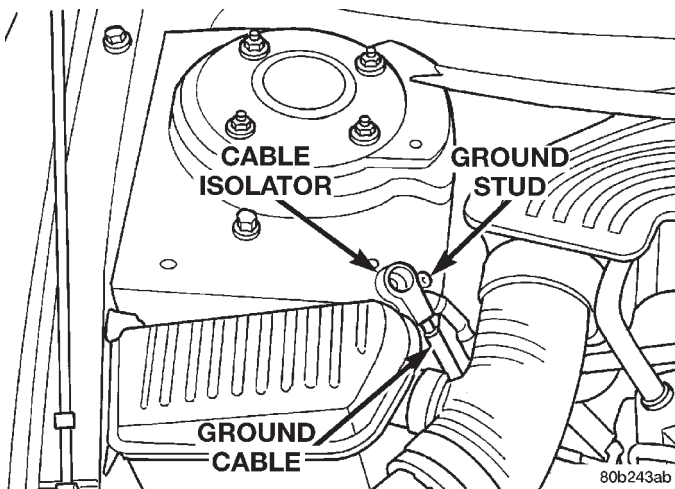

Fig. 2 Correctly Isolated Remote Ground Cable
(1) Remove remote ground cable from ground stud on shock tower and isolate ground cable from vehicle by installing isolator on stud (Fig. 2).